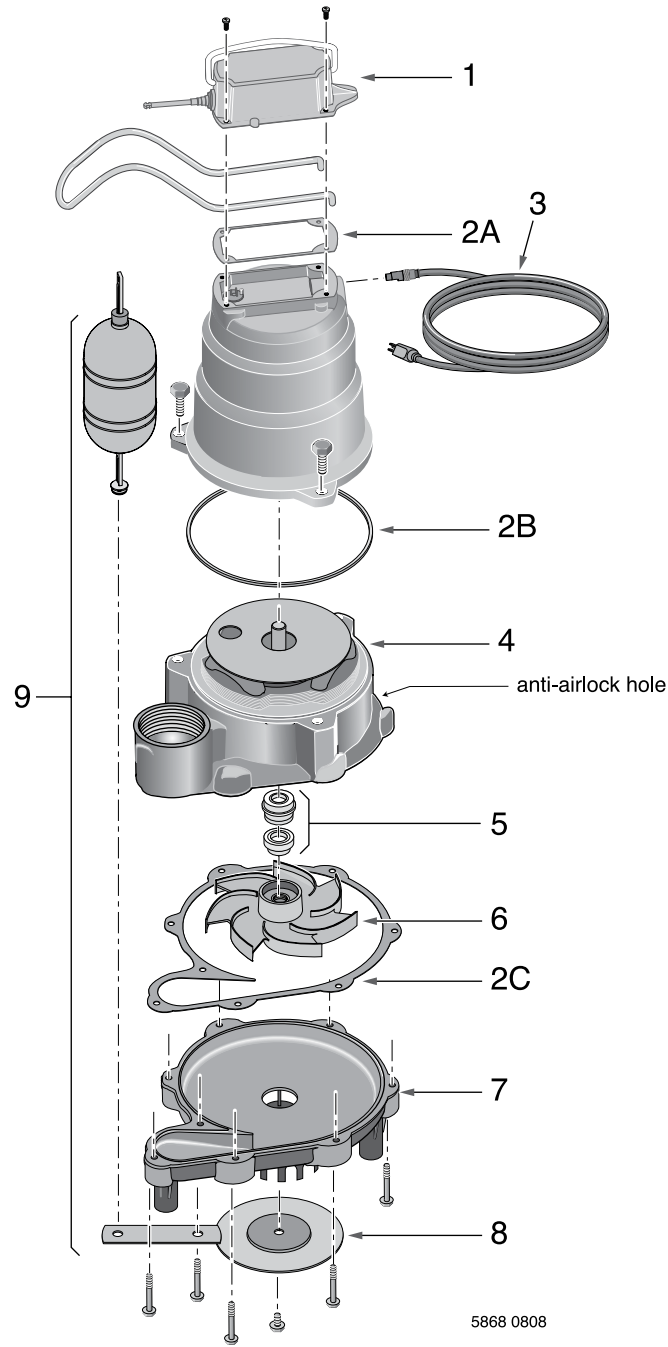

**Figure 1:** Connect switch as shown. Do not disturb the spade terminals on the switch. The gasket has been omitted for clarity.
7. Set the new gasket on the motor housing, then connect the four wires on the new switch to the four terminals in the motor housing (see Figure 1, page 4). Do not disturb the two spade terminals on the switch!